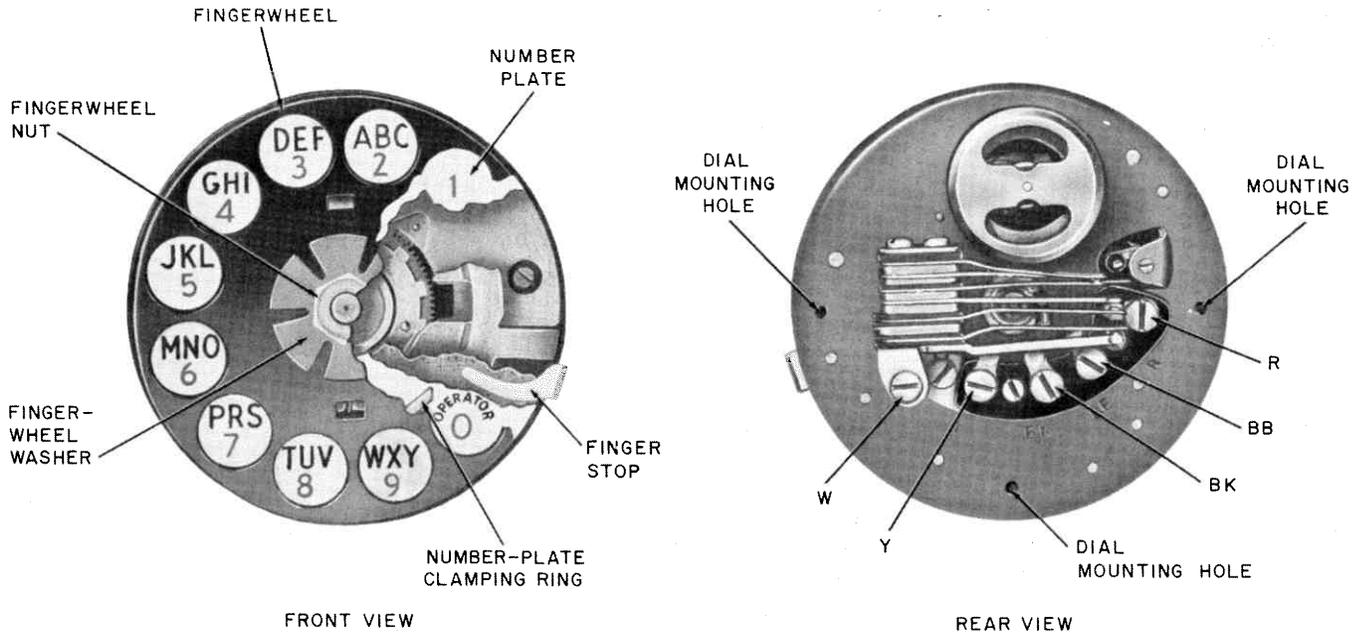
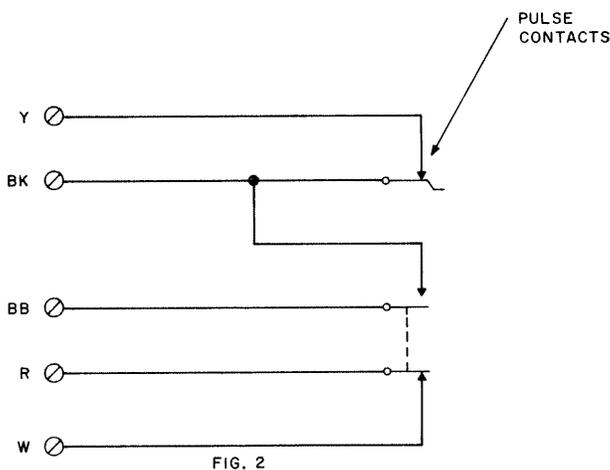

Fig. 1 — 5M-3 Dial
Fig. 2 — 5M-3 Dial Contact Schematic
2.01 Intended for use with 5300-type telephone sets. See Fig. 1 and Table A for assembly of parts, and Fig. 2 for schematic.